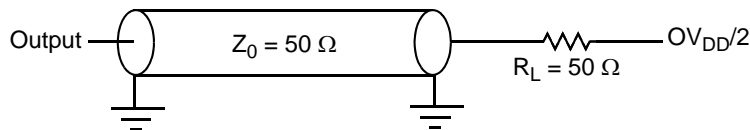

Figure 36. AC Test Load for the JTAG Interface
- All outputs are measured from the midpoint voltage of the falling/rising edge of t_{TCLK} to the midpoint of the signal in question. The output timings are measured at the pins. All output timings assume a purely resistive 50-Ω load (see Figure 36). Time-of-flight delays must be added for trace lengths, vias, and connectors in the system.
- The symbols used for timing specifications follow the pattern of $t_{\text{(first two letters of functional block)(signal)(state)(reference)(state)}}$ for inputs and $t_{\text{(first two letters of functional block)(reference)(state)(signal)(state)}}$ for outputs. For example, t_{JTDVXH} symbolizes JTAG device timing (JT) with respect to the time data input signals (D) reaching the valid state (V) relative to the t_{JTG} clock reference (K) going to the high (H) state or setup time. Also, t_{JTDVXH} symbolizes JTAG timing (JT) with respect to the time data input signals (D) went invalid (X) relative to the t_{JTG} clock reference (K) going to the high (H) state. Note that, in general, the clock reference symbol representation is based on three letters representing the clock of a particular functional. For rise and fall times, the latter convention is used with the appropriate letter: R (rise) or F (fall).